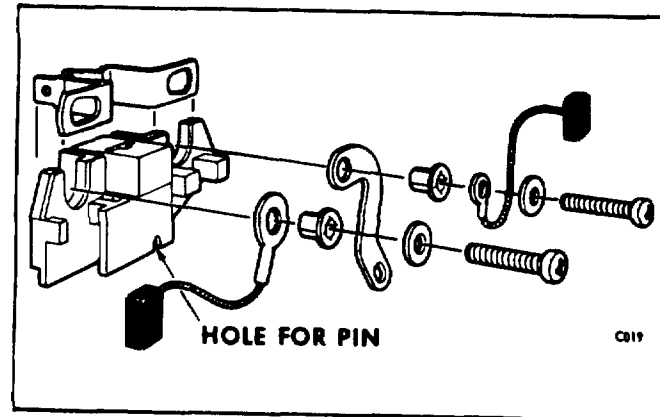

Figure 10.
9. Remove the brush holder assembly from the end frame by detaching the two brush holder assembly screws. (Fig. 10)
8. Install the springs and brushes into the brush holder, and insert a straight wire or pin into the holes at the bottom of the holder to retain the brushes. (Fig. 10) Then attach the brush holder assembly onto the end frame, noting carefully the proper stack-up of parts as shown in Figure 10. Allow the straight wire to protrude through the hole in the end frame.